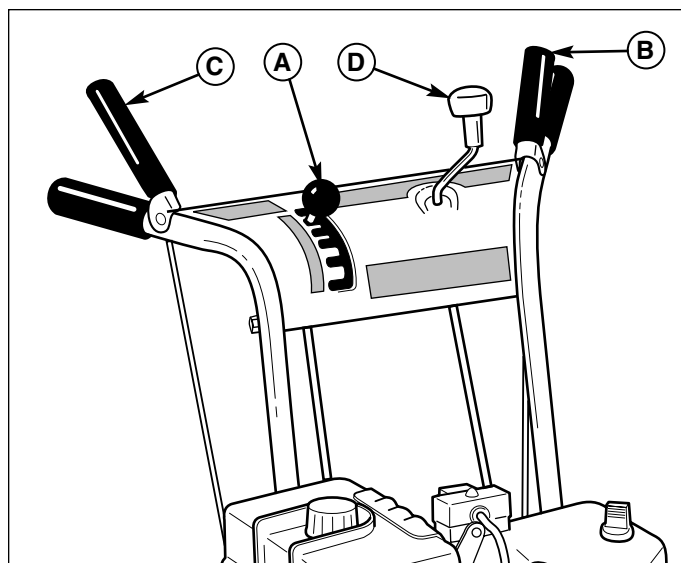

Figure 2. Operator's Control Position
A. Speed Selector - This lever (A, Figures 2 & 3) is used to set the ground speed of the snowthrower.
B. Traction & Free Hand™ Control - This control engages the traction drive as the lever (B, Figures 2 & 3) is depressed, and disengages the traction drive when the lever is released. When both levers are depressed the Free Hand™ control is activated. This allows the auger control to be released yet the auger remains engaged until the traction Free Hand™ is released. **NOTE:** Changing ground speeds must only be done while the drive control is in the disengaged (fully released) position.
C. Auger Control - The auger control clutch lever (C, Figures 2 & 3), engages the auger drive when the lever is depressed and disengages the auger drive when the lever is released (unless Traction Free Hand™ control is also depressed-see above).
D. Chute Direction Control - The chute direction control (D, Figures 2 & 3), allows the discharge chute to be rotated to throw snow in the desired direction. Snow may be thrown at any angle from straight left, to straight forward, to straight right.
7. Check the drive control (B, Figure 2), and Auger Control (C) for proper operation. The auger and impeller must stop within 5 seconds of releasing the Auger Control (C). If adjustment is required, see the Service Section for procedures.
8. Check the chute direction control (D, Figure 2) for proper operation. The discharge chute should rotate freely in both directions. See the Service Section for adjustment procedures and troubleshooting.
11. Check the speed selector (A, Figure 2) for smooth operation. The control must move freely into each speed position gate and remain in position when released. If the speed selector does not move freely into all forward and reverse speed positions, contact your local authorized dealer for assistance.